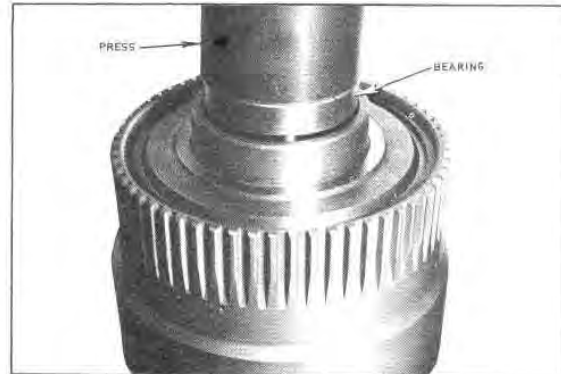

Fig. G69 — Pressing the Bearing into Position
32. Lower the ring gear and clutch assembly until the internal teeth of the clutch plates begin to engage the teeth on the forward clutch hub. Rotate the ring gear to align the teeth of the clutch plates with the teeth on the clutch hub. Do not force the ring gear, as damage to the teeth on the clutch plates will result. When the ring gear and clutch are in the correct position, the rear end of the ring gear should be against the assembly tool or 'flush' with the rear thrust face of the drive gear. Do not remove the drive gear and clutch assembly from the assembly tool or move the drive gear forward until steps (33), (34) and (35) are completed. Any movement of the drive gear forward will result in the clutch plates becoming disengaged, with the clutch hub and sealing rings moving out of position.
33. Place the aligned parts and assembly tool on an arbor press. Place the annular clutch bearing over the protruding drive gear and squarely into the bore at the front end of the forward clutch cylinder. Using a suitable tool, press the clutch bearing down until the snap ring grooves on the drive gear and in the clutch cylinder are exposed (Figure G69).